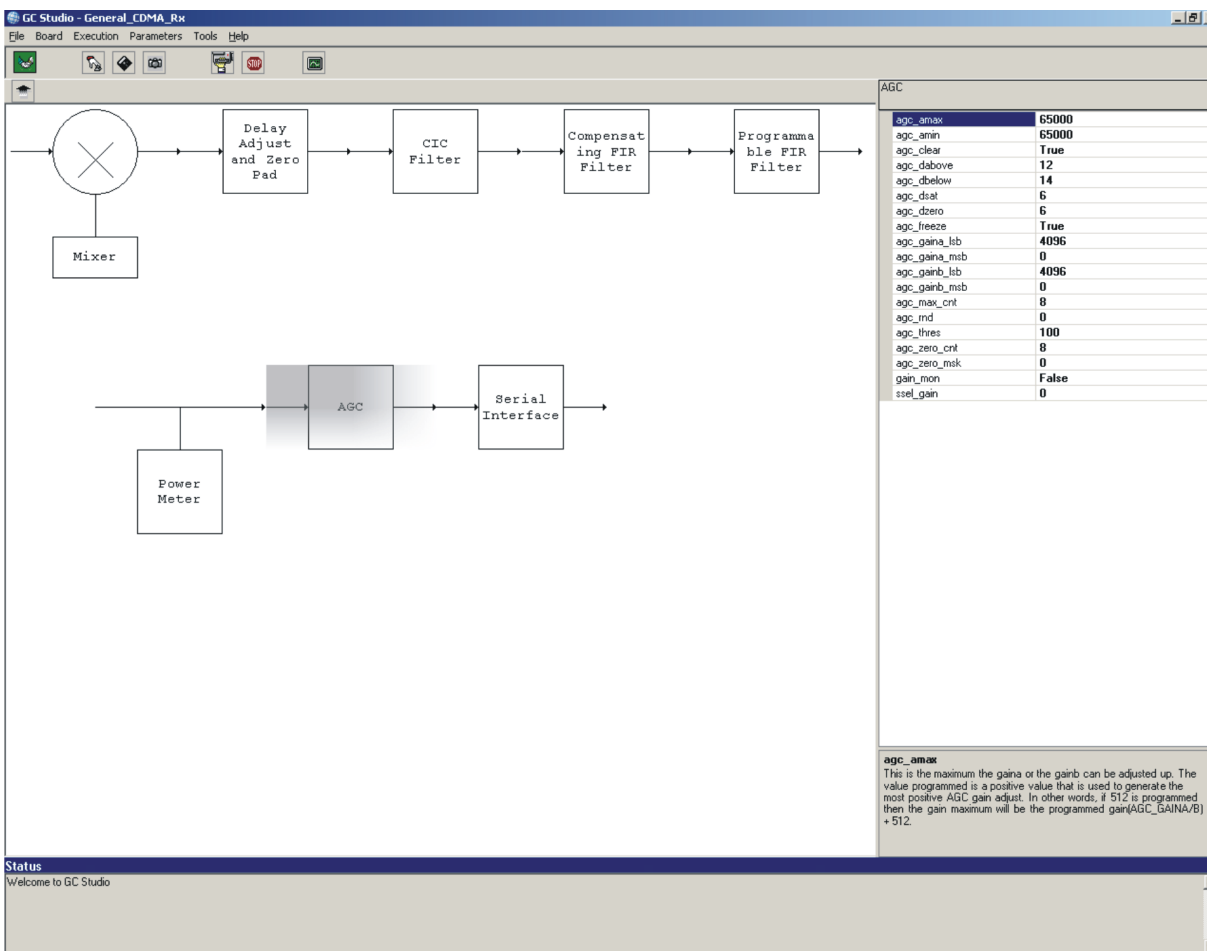

**Figure 14. CDMA – PFIR Coefficients**
- The following 64 taps are used for the PFIR coefficients (only half are shown in Figure 14).